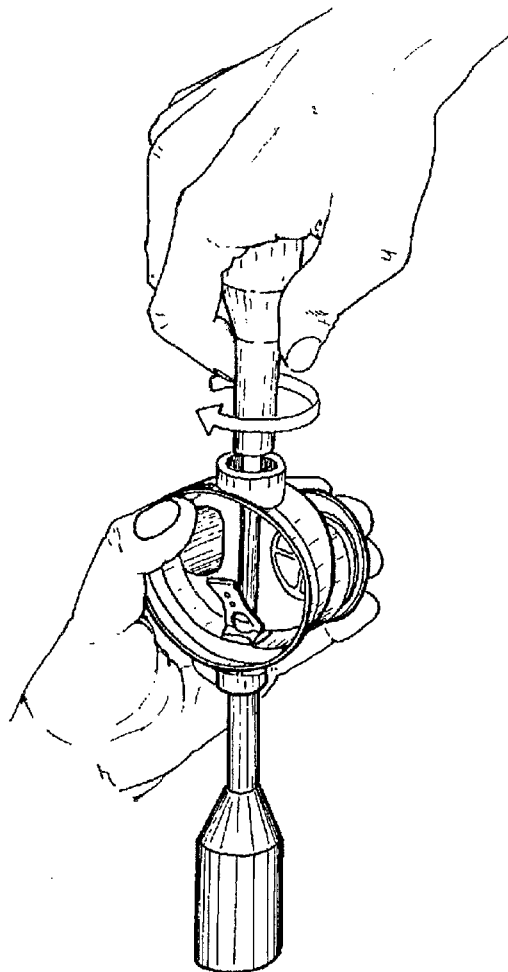

FIG. 2
13. Remove diaphragm ring (78), diaphragm (36) and spacer ring (90) from 2nd stage case.
14. Unscrew case plug (64) using an Allen wrench (B-8).
15. Remove O-Ring (72) from the case plug (64).
16. Remove the plug seat (87) by gently pressing it into the case and remove O-Ring (83) from its seat in the case.
17. Place the 2nd stage case on the special tool (B-6) gently pressing. Then, using nut driver (B-12), unscrew lock nut (33) and remove demand lever (35) and washer (34). (Fig. 2)